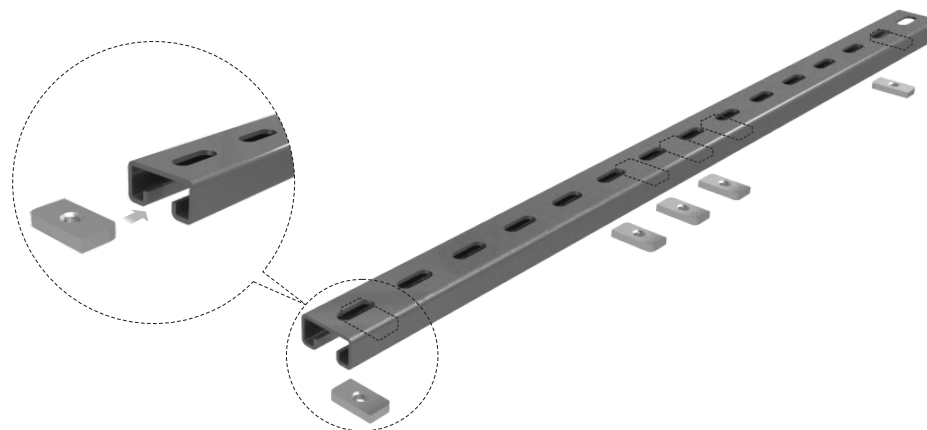

Figure 3
- 1 Embed 5pcs C-type screw nuts into the cross-bar. As shown in figure 3.